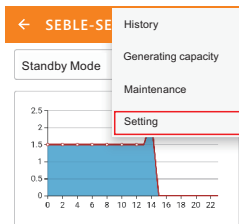

Figure 5.20 APP homepage setting
Step 2 Click the Extension key, and select Setting in the prompt manual, as shown in Figure 5.20.